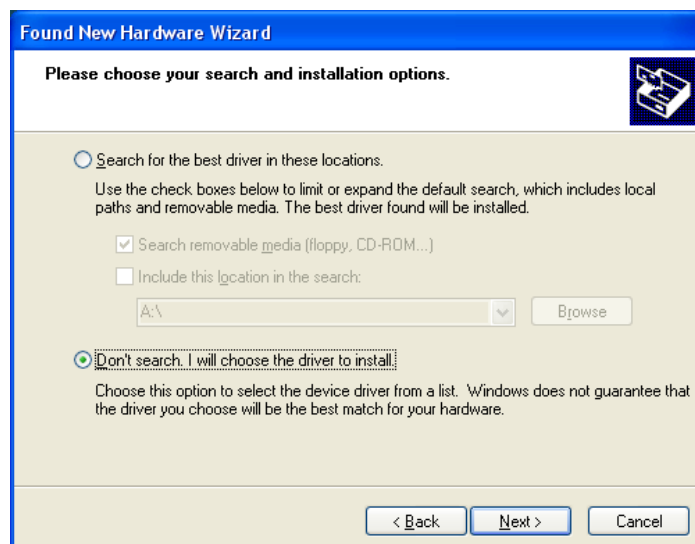

Fig. 2-9 Choose installation method
2. Select “Install from a list of specific location (Advanced)”, and click “Next” to continue. A dialog box as Fig. 2-9 will pop up.